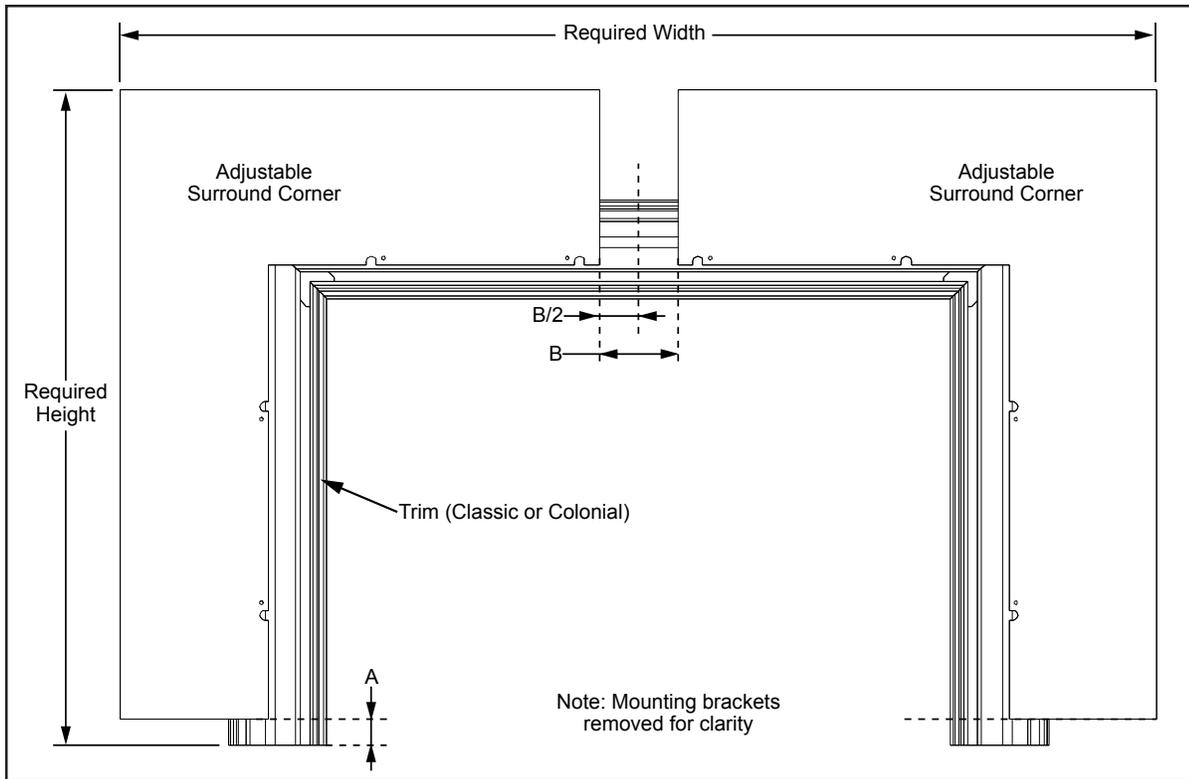

Figure 61: Marking offsets on Trim, Relates to Table 7.
Refer to Figure 61 and Table 7.
Table 7: Adjustable Surround Example, Relates to Figure 61.
c) Mark the height difference on the left and right trim sides. Using the example, they would be marked 1" (25mm) from the bottom of each side, see dimension "A" in Figure 61.
d) Mark the center of the top trim, $15\frac{5}{8}$ " (397mm) from either side. From the center line mark half the width distance on either side. Using the example of 3" (76mm), there would be marks $1\frac{1}{2}$ " (38mm) on either side of the center line, see dimension "B/2" in Figure 61.